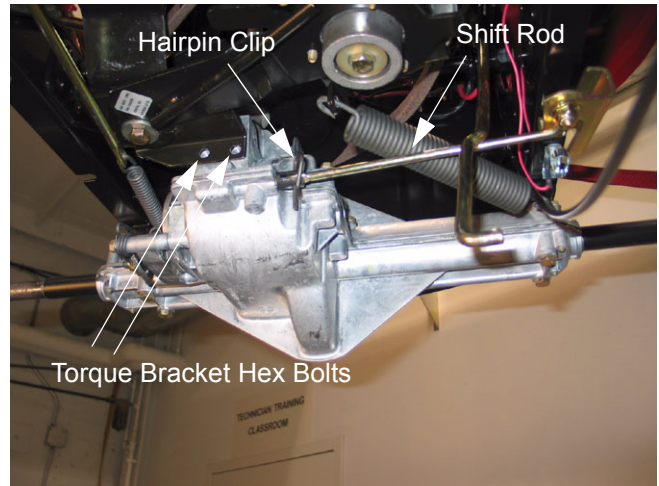

Figure 47
- 11.7. Remove the hairpin clip securing the shift rod to the transmission. Move the shift rod out of the way. See Figure 47.